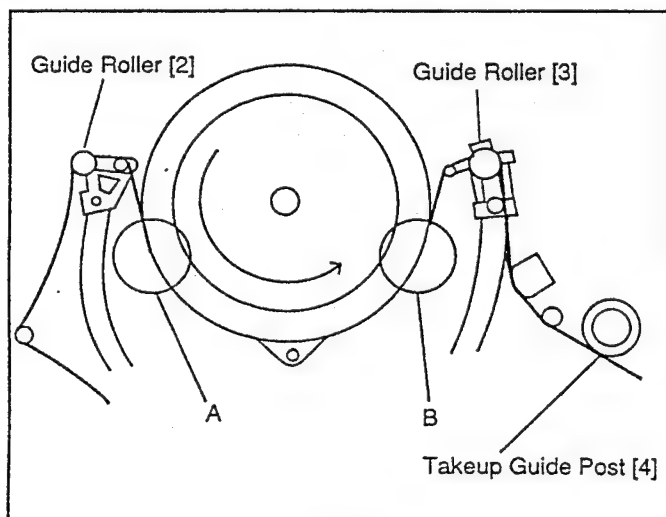
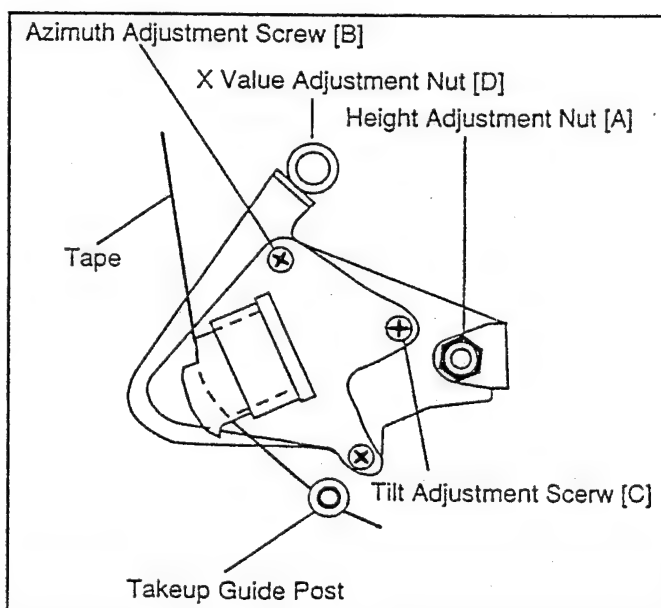
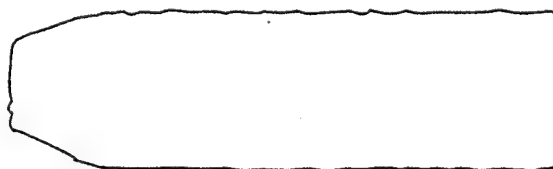
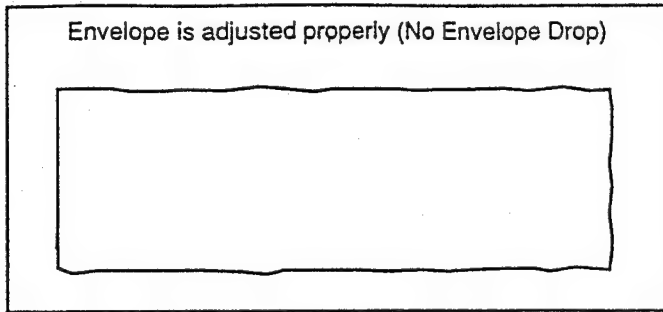

Fig. M3
Fig. M6
Fig. M10
Fig. M12
1. Playback (on forward) a cassette tape and confirm that the tape runs without curling or creasing at the guide rollers [2] and [3], and at the points A and B on the lead surface. (Refer to Fig M3 and M4)
2. If curling or creasing is apparent, align the height of guide rollers by turning the top of guide rollers [2] and [3] with Post Adjustment Screwdriver. (Refer to Fig. M3 and M5)
1. Playback a cassette tape. Looking at the lower edge of the Control Head with the tape in motion, ensure that the lower edge of the tape runs 0.15~0.25mm above the lower edge of the Control Head. If it does not run properly, turn the Height Adjustment Nut [A] slightly in either direction as necessary to correct it. Turn clockwise to lower the head and counterclockwise to raise it. (Refer to Fig. M6 and M7.)
Playback a cassette tape and confirm that the tape running between Takeup Guide Post [4] in Fig. M3 and Audio Control Head has no slack. If the tape has slack, align the Control Head by turning tilt adjustment screw [C] in Fig. M6 so that the tape has no slack.
3. Playback the Monoscope Portion (1kHz, Audio) on the alignment tape (F8-A), then confirm that the audio signal output level is 1KHz. Finally adjust the Height Adjustment Nut [A] so that the output level is at maximum. (Fig. M6)
4. Adjust the Azimuth Adjustment Nut [B] so that the output level of AC Voltmeter Value is at maximum. (Fig. M6)
4. When the Scope Display is as shown in Fig. M10, adjust the height of [2] (Refer to Fig.M3) so the waveform looks like Fig. M12.
5. When the Scope display is as shown in Fig. M11, adjust the height of [3] (Refer to Fig.M3) so the waveform looks like Fig. M12.
6. When [2] and [3] (Refer to Fig.M3) are aligned properly, there is no Envelope Drop either at the beginning or end of track as shown in Fig. M12.